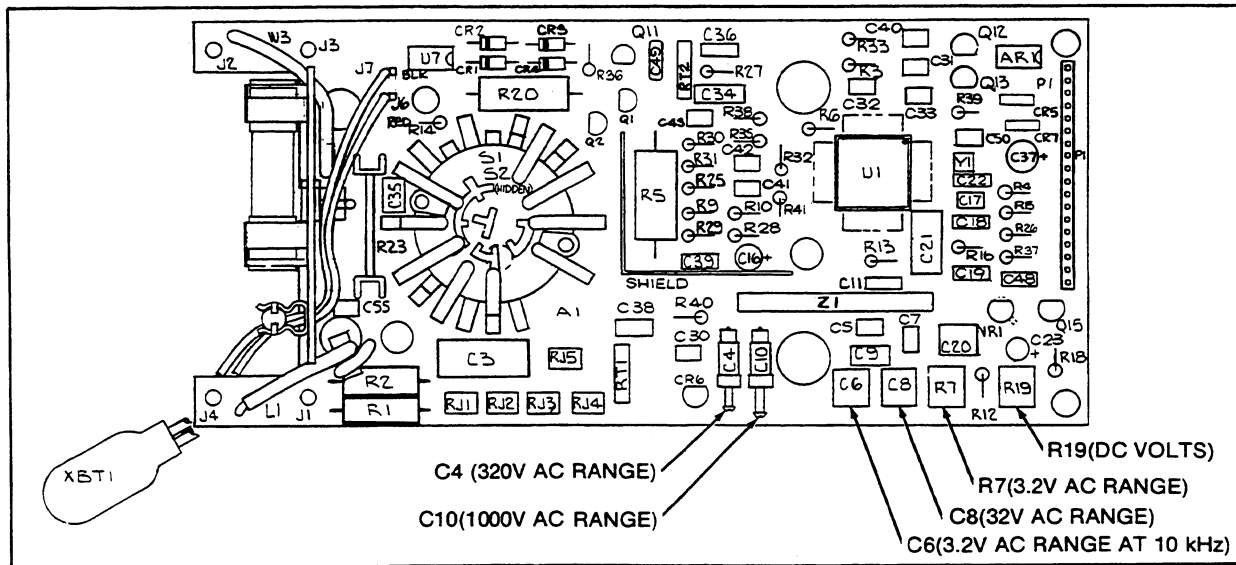

Figure 5-3. Calibration Adjustment Locations
1. Connect the DMM calibrator to the 8025B volts / ohms / diode test input jack and common. Refer to Figure 5-3 for calibration component locations.
Refer to the Figure 5-3, the component location diagram, and to the schematics in Section 7 of this manual as necessary during the following troubleshooting procedures.